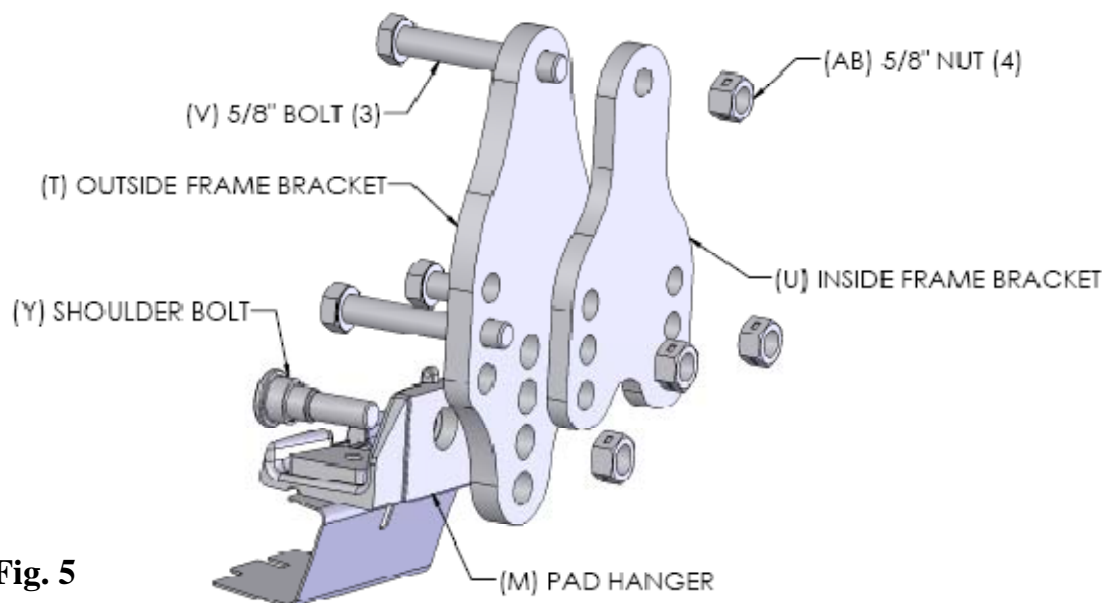
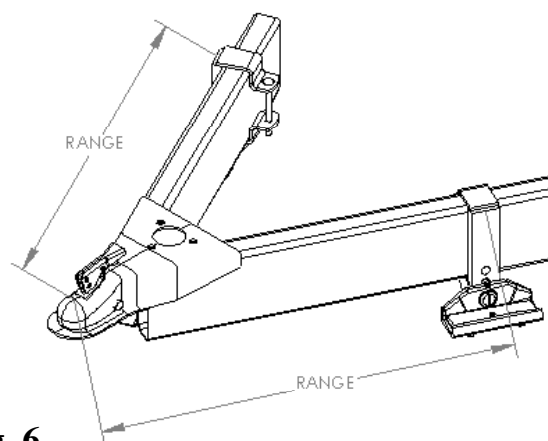

Fig. 5
Fig. 6
FRAME BRACKET ASSEMBLY (1200 and 1500 lb kits only, shown in Fig. 5)
- Assemble 5/8" bolt (V) through the top holes of the outside frame bracket (T) and inside frame bracket (U) shown in Fig. 5.
- Slide bracket assembly over the trailer frame and install two 5/8" bolts through the highest lower bolt holes that are unobstructed by the frame. Install three 5/8" nuts (AB) and hand tighten.
- Slide frame brackets into position, the center of the frame brackets should be placed approximately 29" from the coupler ball center as shown in Fig. 6.
- Insert shoulder bolt (Y) through the pad hanger (M) and outside frame bracket. Frame brackets have four mounting holes used for 4, 5, and 6" tall frames. Insert the shoulder bolt through the highest hole not obstructed by the frame.
See Fig. 6